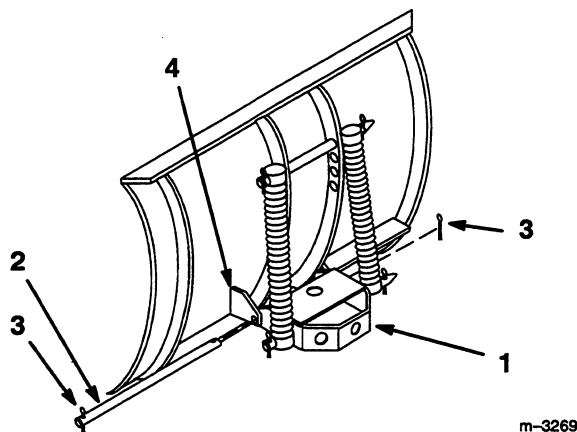

Figure 1
1. Lift and rotate the channel assembly so its holes align with the lower blade mounts. Slide the rod through the holes and secure it with (2) 1" (26 mm) cotter pins (Fig. 1). Bend the ends of the cotter pins to secure the rod.